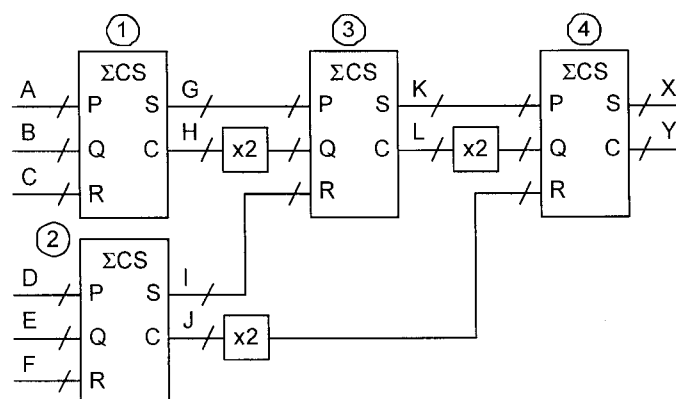

Figure 4.2
- (c) Figure 4.2 shows four carry-save adder modules connected to add together six input numbers. The signal busses A, B, C, ... do not necessarily all have the same width but may be assumed to be wide enough to represent the unsigned values a, b, c, \dots without overflow. [4]